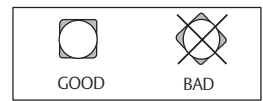

Figure 22
- Use correct spindle orientation. (Figure 22)